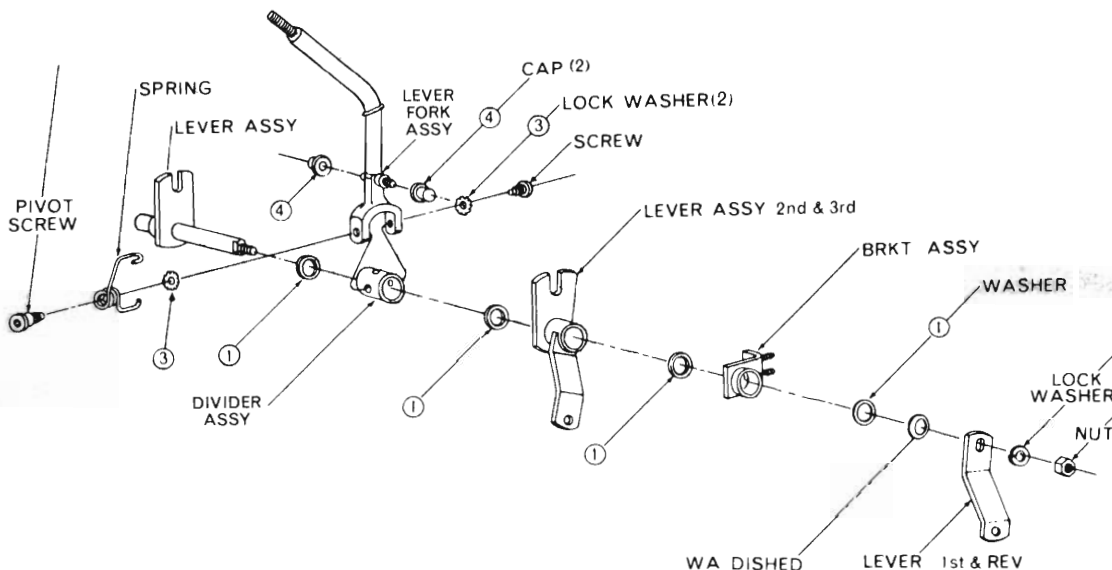

Fig. 12 - Selector lever bracket lever assembly (dis-assembled view)
Refer Fig. 12
- (1) Lubricate all the component bearing surfaces with a multi-purpose molybdenum grease.
- (2) Reassemble the components in the order shown in Fig. 12.
- (3) Install the lever retaining nut and washer and tighten to 20-25 lbs. ft. torque.